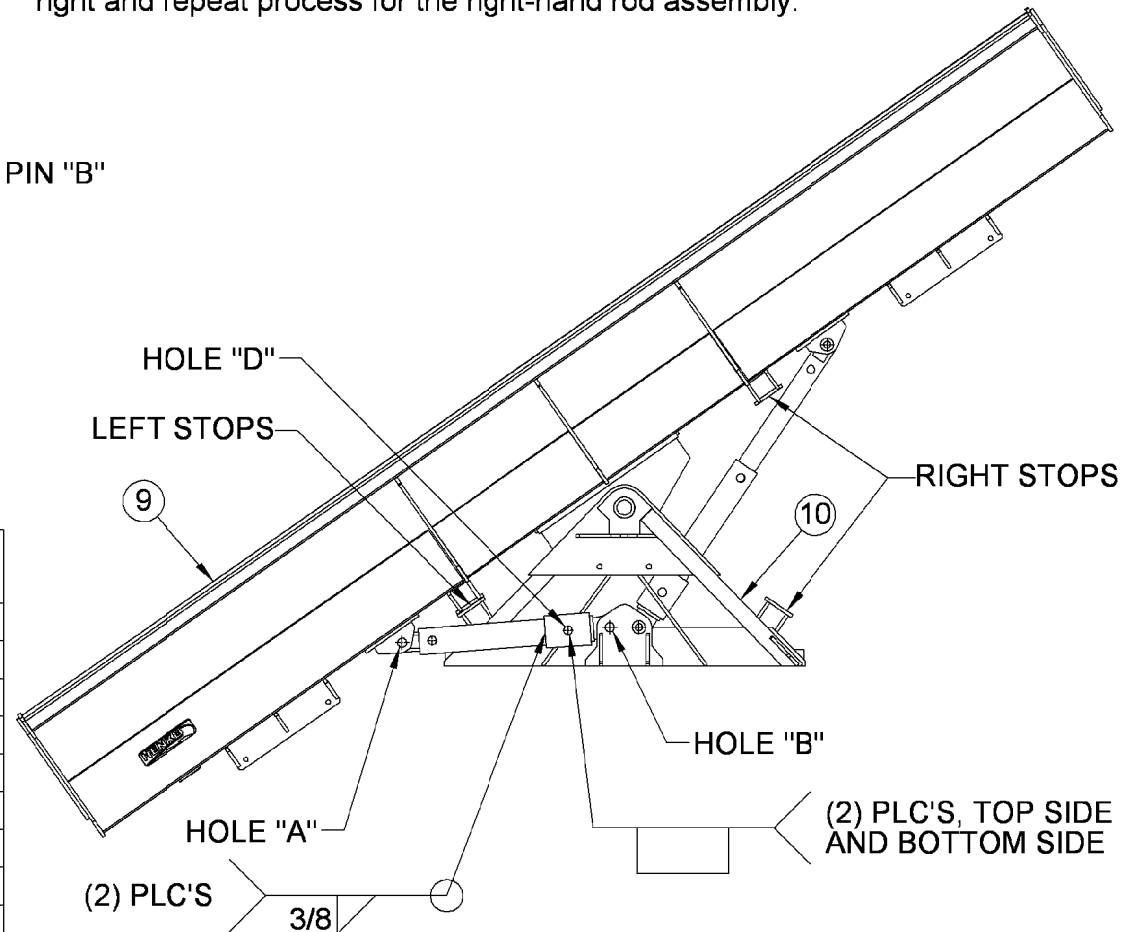

FIGURE 4 – Manual Reversing Kit
* See Figure 4 & Table 3 for Manual Reverse Kit.